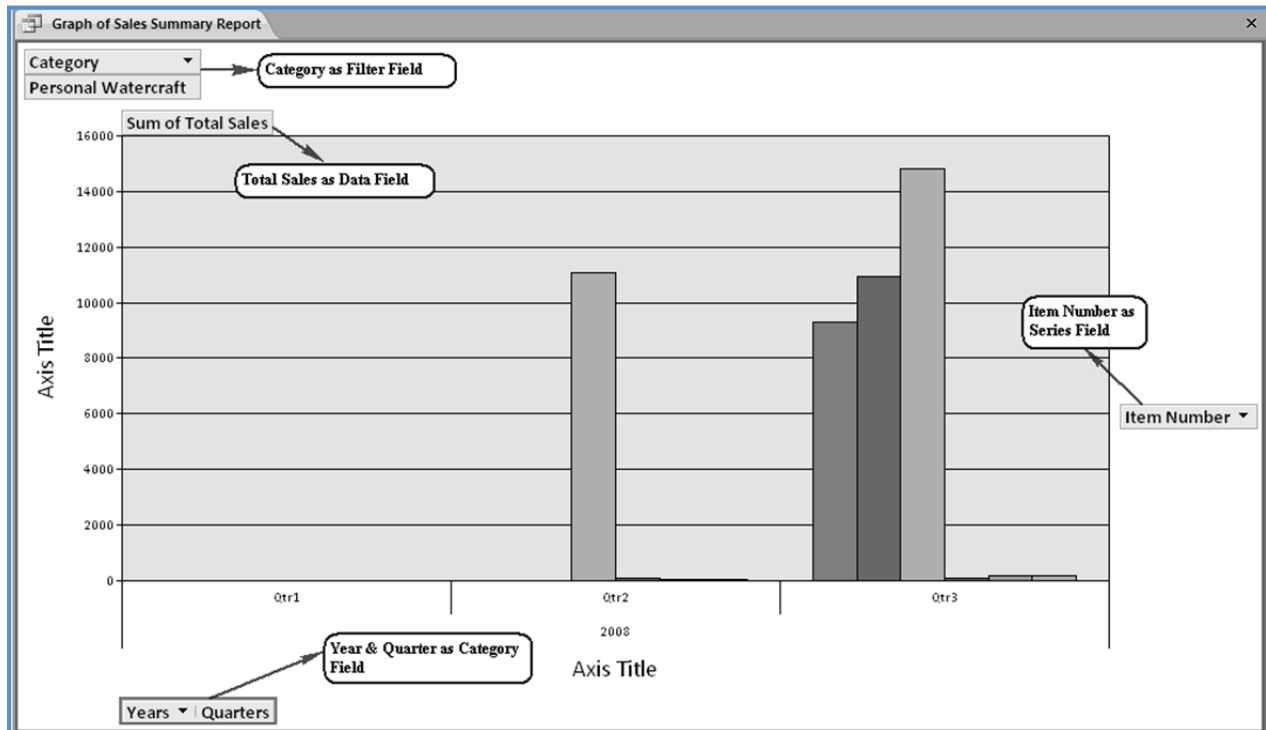

Fig. 1.2.66: Drag and Drop Fields in PivotChart Area
9. The *PivotChart* window should appear, as shown in Fig. 1.2.66.